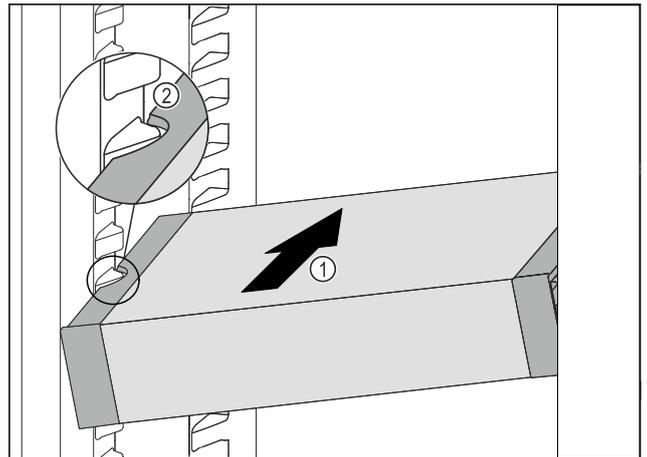

Fig. 99
- ▶ Insert the VarioSafe into the refrigerator compartment at an angle Fig. 99 (1) until the recesses in the side Fig. 99 (2) of the VarioSafe are at the level of the support rib in the refrigerator compartment.